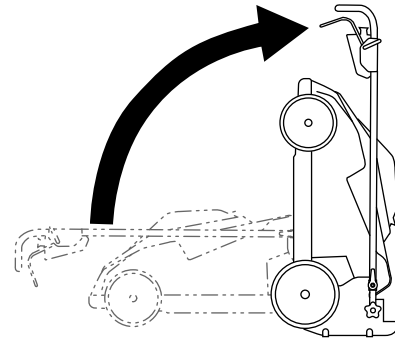

Figure 18
6. Lift the front of the machine by the handle and move it into a storage space (Figure 18).
3. Fold the handle forward to the fully forward position as shown in Figure 18.